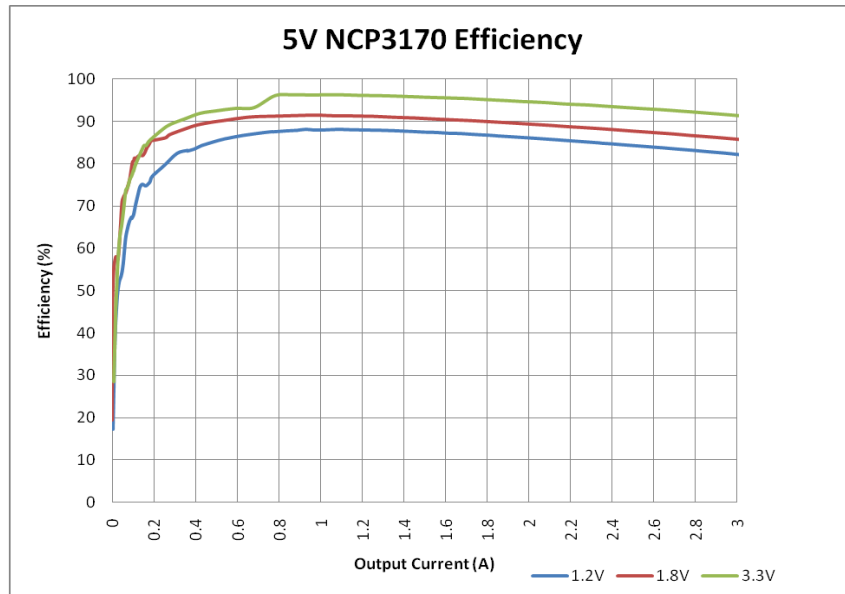

Figure 3: NCP3170 Efficiency at 5V Input and 1.2V, 1.8V, and 3.3V Output
9. Set I_{OUT} to desired level, 0A - 3A, and measure voltage and current - the efficiency should be similar to that shown in Figure 3 and 4